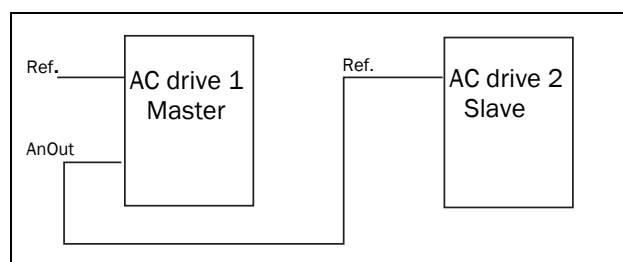

Fig. 123
- a reference signal for the next AC drive in a Master/Slave configuration (see fig. 123).